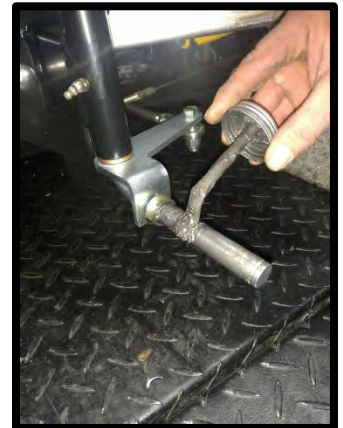

FIGURE 5. Front Spindle Shaft
- Remove front tire assembly. Inspect bearings for wear and replace if worn. Clean spindle shafts and inner tire assembly, apply a layer of anti-sieze to the inner tire and shaft and reassemble. (FIGURE 5)